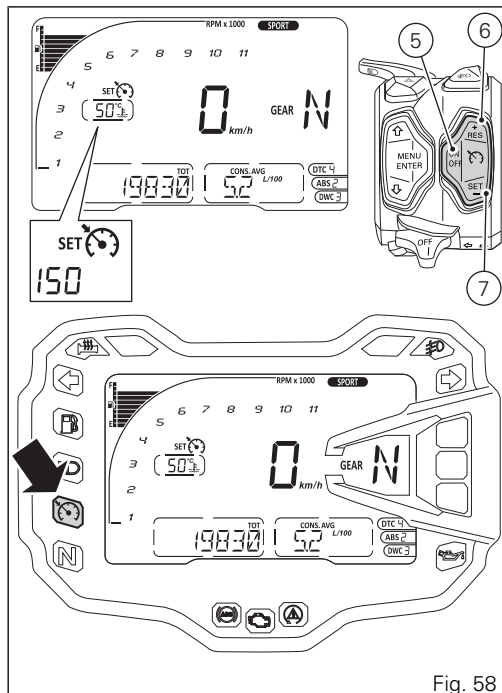

Fig. 58
When SET button (7, Fig. 58) is pressed, current speed is set as target cruise speed.
It is possible to increase or decrease set cruise speed, by pressing buttons (6, Fig. 58) and (7, Fig. 58) respectively.
(6, Fig. 58) or SET (7, Fig. 58): press RES (6, Fig. 58) if no target speed has been previously set.
In stand-by mode, if you press RES (6, Fig. 58) and a target speed has been previously set and the operating conditions are met, the system starts working again and brings the vehicle to the last set target speed.
- pressing button (5, Fig. 58);